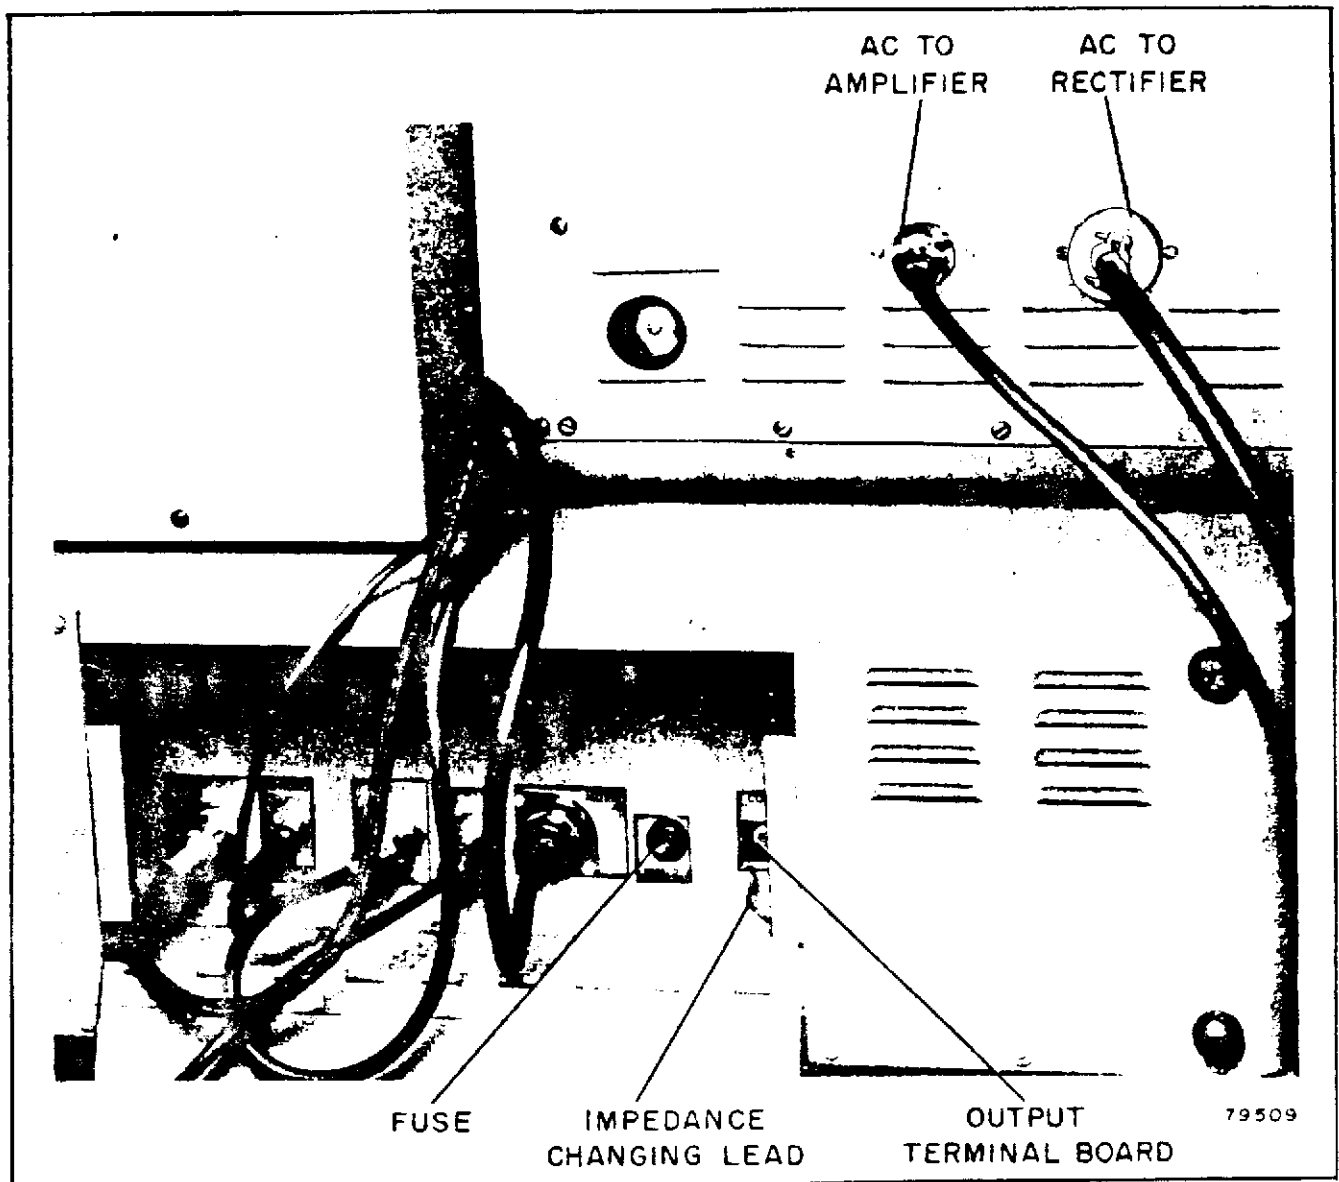

Figure 3 — View of Nonoperating Side of Amplifier with Cables Connected
2. Unfold the elevating crank on the front of the amplifier case and turn it clockwise until the elevating pins protrude approximately one-half (1/2) inch above the top surface of the housing. This will facilitate locating the projector mechanism in proper engagement with the pins. Remove the front cover from the projector mechanism and set it in place so that the brackets on its lower front surface engage the elevating pins. Open the door in the amplifier carrying case, on the nonoperating side or on the side opposite the amplifier control panel, by turning the two locks with a coin; connect the plugs of the three connection cables from the projector mechanism to their mating receptacles within this compartment, see figure 3. The plugs and receptacles are arranged so that they cannot be incorrectly connected. The screw-type holding rings on the two shielded cable connectors should be screwed on with reasonable firmness to insure good electrical connection of the cable shields.
There are two sockets on the under side of the arc lamp at the rear end. Insert the female plug of the 117 volts ac power cable in its mating socket at the left (viewed from the rear end of the arc lamp). The large diameter cable having twist-lock plugs at each end is used to carry direct current from the rectifier to the arc lamp. Connect its female plug to the right hand socket underneath the arc lamp, and connect the male plug at the opposite end of the cable to its corresponding socket on the rectifier. The small diameter cable with plugs at each end is used to carry alternating current from the arc lamp to the rectifier. See figure 3. Connect the male plug on this cable to the socket on the nonoperating side of the arc lamp, and connect the female plug to its mating socket on the rectifier. To protect the operator, the alternating current for the rectifier is passed through door-operated mercury switches within the arc lamp so that the current is interrupted and the rectifier ceases to supply direct current as soon as the arc lamp door is opened. Refer to figure 4. Insert the parallel blade plug, which is attached to the permanently connected short cable coming from the amplifier, in the mating socket on the nonoperating side of the arc lamp.
5. The door on the nonoperating side of the pedestal-amplifier case provides access to the amplifier's output jack and terminal board, see figure 3. The sound output jack and the impedance changing screw terminals are in parallel to accommodate either permanent or portable speaker connections.
One end of each of the amplifier's output transformer secondaries (low and high impedance) is grounded and is also connected to the jack frame as well as to the "COM" terminal of the impedance changing terminal board, see figure 16. Three taps on the lower impedance secondary are connected to the next three terminals (left to right) on the impedance changing terminal board, providing output impedances of 4, 8 and 15 ohms. The higher impedance secondary provides a 500 ohm output circuit suitable for connection to certain types of stage loudspeaker equipment, and it is tapped at 164 ohms to provide a nominal "70 volt line" for feeding modern distributed speaker systems. The flexible lead associated with the impedance changing terminal board is used to select the desired output circuit, see figure 3.